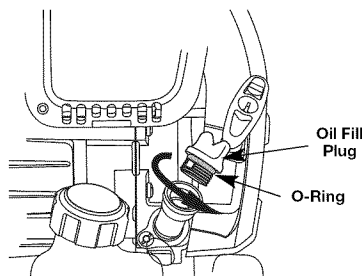

Fig. 9
2. Remove the oil fill plug from the crankcase (Fig. 9).